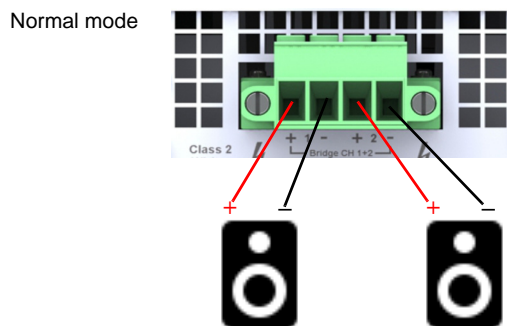

Figure 2-15 Connecting Channels from the Terminal Block to Speakers in Normal Mode
3. Connect the negative (–) output of the amplifier to the negative (–) input terminal on the same speaker. (See Figure 2-15.)